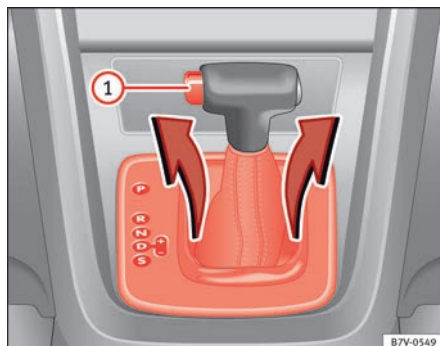

Fig. 195 Remove the lining from the area of the gear indication.
- Pull the cover up around the dust guard on the gear selector lever ⇒ fig. 195.
- Press the lock button ⇒ fig. 195 ① on the gear selector lever knob and place the gear selector lever in the **N** position.